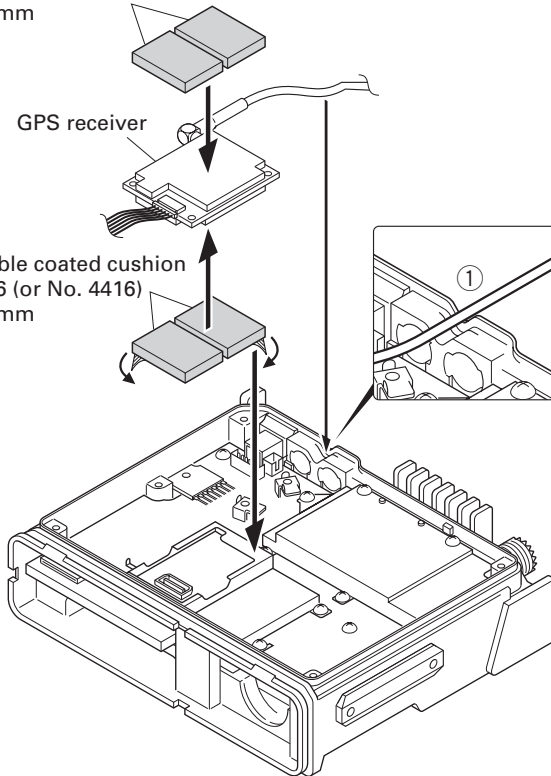

Fig. 9-2
4. Attach the GPS receiver to the shield case with two cushions as shown in Figure 9-2.
6. Place the GPS antenna cable in the hollow at the rear of the chassis. (Fig. 9-2 ①)